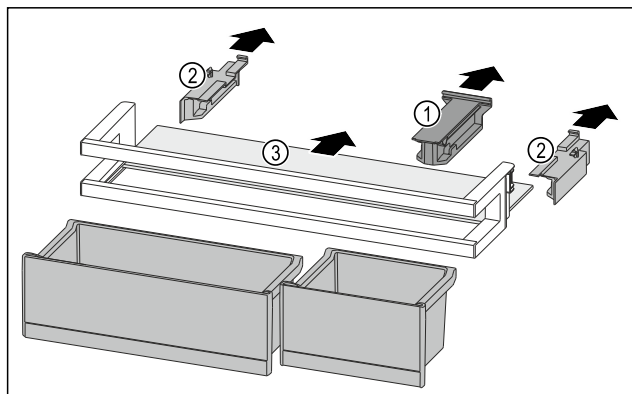

Fig. 141
- Pull off the holding part Fig. 141 (1).
- Pull off the side parts Fig. 141 (2).
- Remove the shelf Fig. 141 (3).